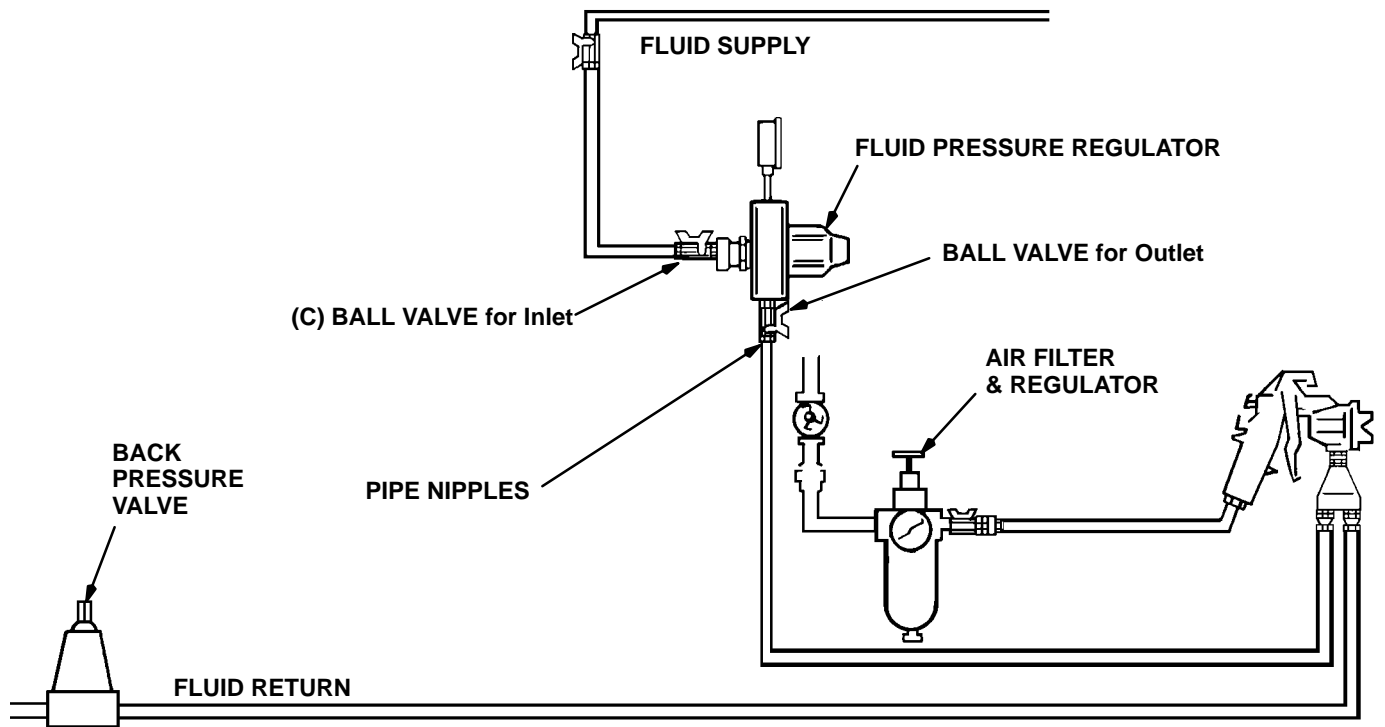

Fig 1
2. Shut off the pump and relieve fluid pressure in the system by opening the back pressure valve or other bypass valve. See Fig 1.
1. Start the pump and open the fluid shut-off valve (C) to admit paint to the regulator inlet. See Fig 1.
2. Take the regulator out of bypass mode by using the external hex (B) of the key (7) to turn the adjustment screw (8) *fully clockwise* (until it bottoms out).